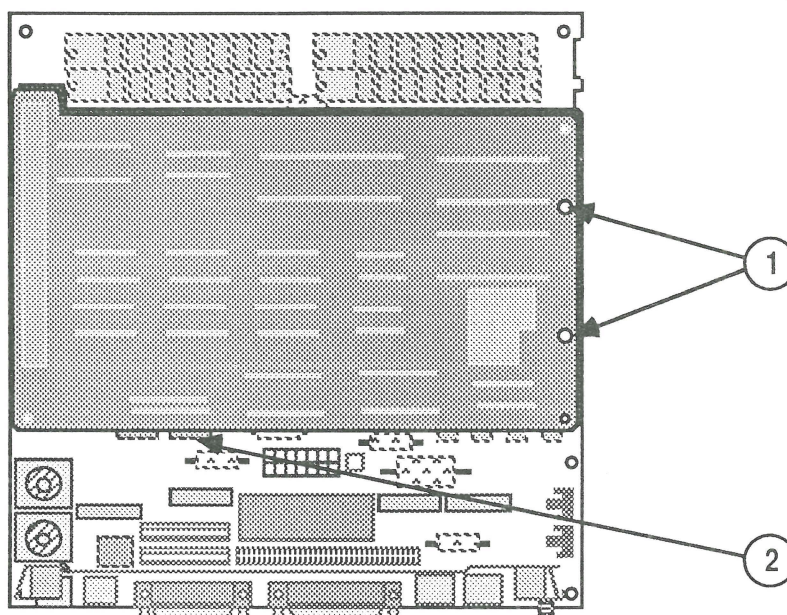

FIGURE 6
- IPL.11 Video Card—Macintosh II Extended High-Resolution Display (Figure 6)
7. Align the plastic standoffs on the card with the mounting holes on the main logic board (Figure 6, #1). Push the standoffs into the holes until they snap into place.
8. Position the Macintosh SE with the face down and the bottom toward you. Plug the SE-Bus PC Card cable into the 26-pin connector on the card (Figure 6, #2).